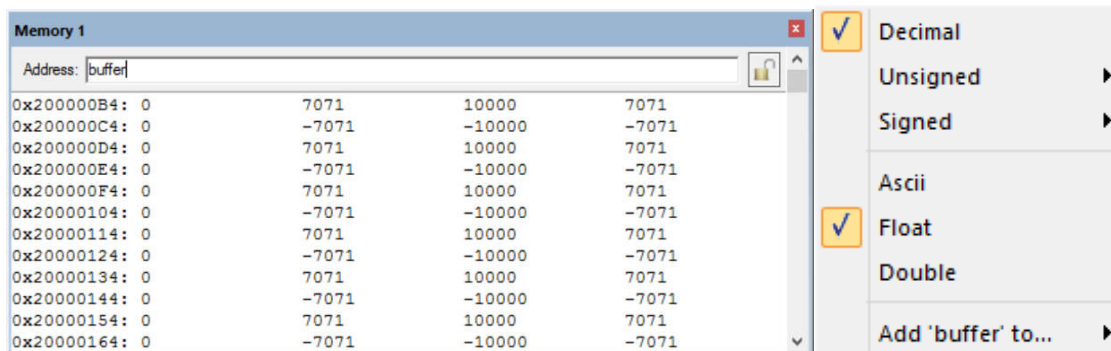

Figure 5: Memory 1 window showing the contents of array `buffer`
3. Type the variable name `buffer` as the **Address** in the debugger's **Memory 1** window. Right-click on the **Memory 1** window and set the displayed data type to **Decimal** and **Float** as shown in Figure 5.